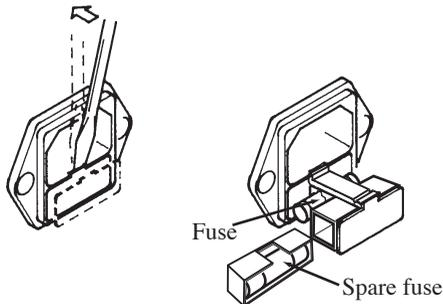

Fig.6-1 Removing the fuse holder
3. Remove the fuse holder using a tool such as a flat-blade screwdriver as shown in Fig.6-1.